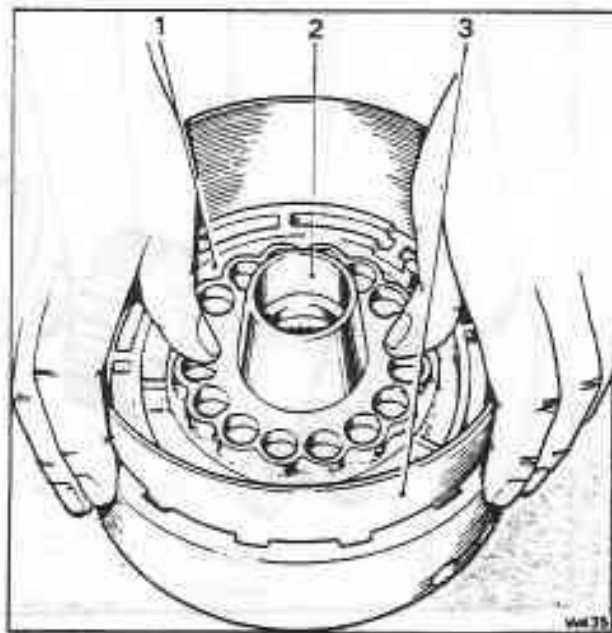

Fig. T18-8 Fitting the forward clutch piston
7. Fit the clutch piston inside the forward and direct clutch piston seal protector (J-21409), then fit the assembly into the forward clutch housing (see fig. T18-8).